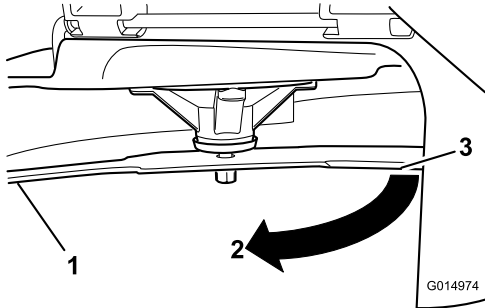

Figure 90
3. Second measured distance between blade and surface (B)
4. Rotate the same blade 180 degrees so that the opposing cutting edge is now in the same position (Figure 90).